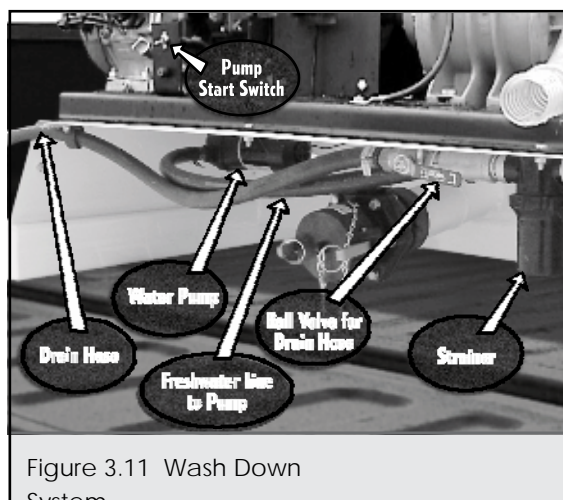

Figure 3.11 Wash Down System
- Turn the pump start switch on (Figure 3.11). The pump does not require priming.